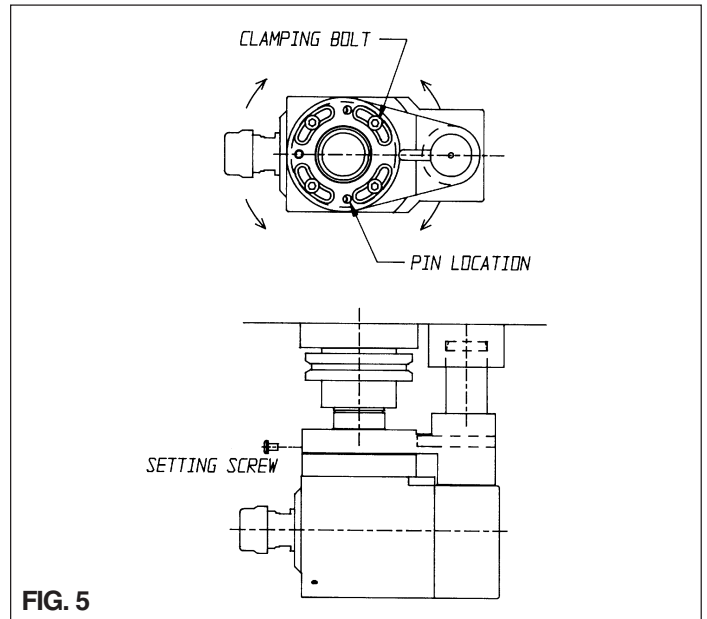

FIG. 5
**Step 2. Radial Positioning:** The RSR 50 VMC stop arm can be bolted to the top of the housing in four different positions at 90 degree increments. Within each of these positions there is also adjustability so that you can set the position independently of the stop block location. Please note that when setting position or when choosing a stop block location, if you are installing your own stop block, it is necessary to check carefully for any possible interference with the tool changer or in the tool storage area. **Always** confirm clearance before trying an automatic tool change. In some instances it may be necessary to load the RSR50 VMC by hand. To adjust the radial position, remove the alignment collar from the tapping attachment be sure the machine spindle is locked in the tool change orientation position, and then reinstall the attachment into the machine spindle as shown in FIG. 5. The clamping bolts should be in the position desired and tightened loosely so that the stop arm ring can still be turned but can not be tilted from pressure of the stop arm. Make the position adjustment by turning the housing of the RSR50 VMC. You may be able to use an indicator on your table to either sweep across the front of the housing or along a gage pin placed in the ER16 collet chuck to be sure your tap is oriented properly with the work piece. This is possible when orientation is along the X or Y axis. When aligned properly, tighten setting screw shown in FIG. 5. Then remove the RSR50 VMC from the machine and firmly tighten all four clamping bolts. The setting screw can now be removed. In addition to the bolt locations, there are also three other tapped holes. One of these holes should be used as a pin location. Choose a hole over solid material and drill a 5 mm hole through this location into the top of the housing approximately .250 or 6mm deep. If none of the holes are over completely solid material, one of them may be directly over one of the M5 tap hole locations. You can drill .250 or 6mm deep into this location, removing the threads with a 5mm drill, and use this location for your pin. After drilling install the threaded pin provided with your wrench kit. After this last step the alignment collar and shank can be reassembled with the RSR50 VMC.